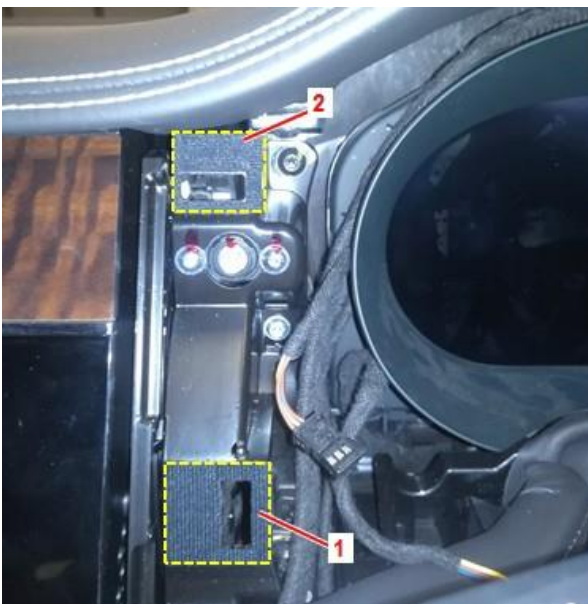

Figure 18
With the fascia panel removed, apply anti-creak tape around the entire perimeter of the opening section of the appropriate receiving hole as shown in Figure 18.
Note. Apply anti-creak tape at position (1) to push the bottom of the fascia panel out and position (2) to push the top of the fascia panel out. See Figure 18.